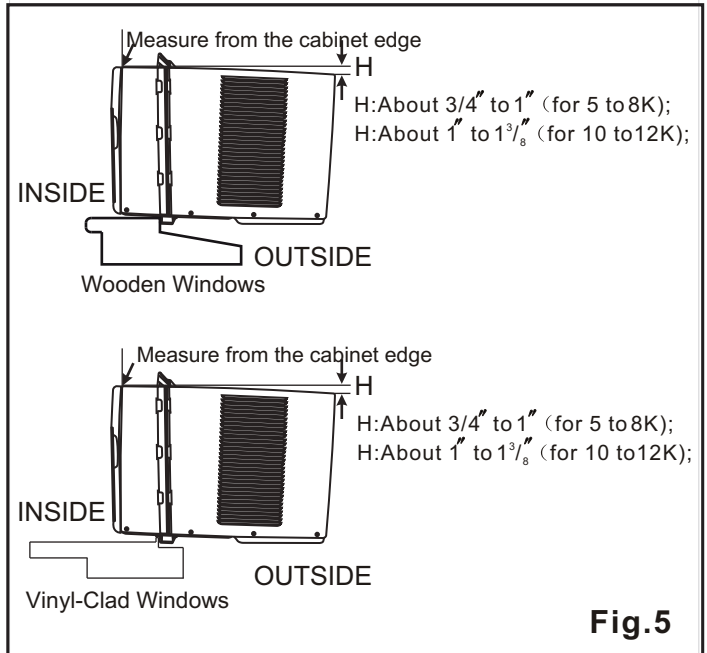

Fig.5
A. Keep a firm grip on the air conditioner, carefully place the unit into the window opening so the bottom of the air conditioner frame is against the window sill (Fig.5). Carefully close the window behind the top rail of the unit.
NOTE: Check that air conditioner is tilted back per dimension H (Fig. 5) (tilted about 3° to 4° downward to the outside). After proper installation, condensate should not drain from the overflow drain hole during normal use. Adjust the slope if otherwise.